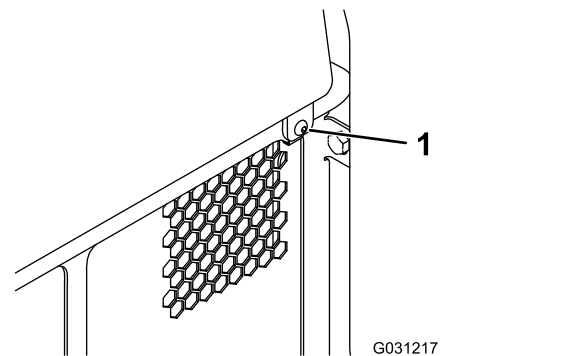

Figure 34
1. Remove the fastener (Figure 34).
2. Lift the rear-access cover up to access the internal components (Figure 34).